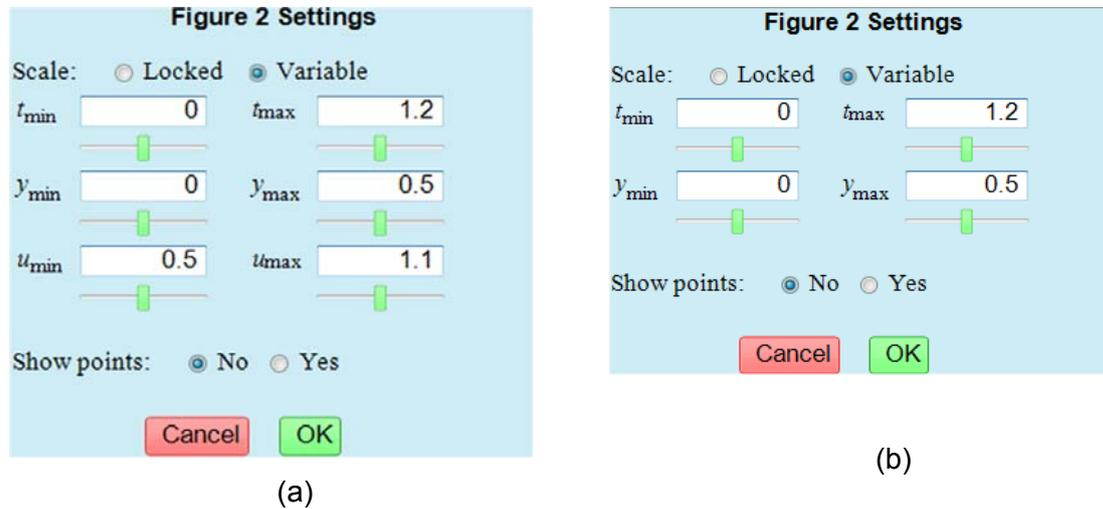

Figure 22. Auxiliary window to configure the scale in the *time response* zone:
On the other hand, to configure the scale of the *time response* zone, the user has to click on the gearwheel icon located in the right upper corner of the zone (see Figure 20). When the user does this action, an auxiliary window is shown (see Figure 22). There are two types of scale:
- Settling time t_s . It is the time required for the response curve to reach and thereafter remain within a 2% percentage of its final value. If LCSD cannot compute automatically t_s , then the value -1 is shown in the table. In this case, the user has to increase the simulation time t_{max} in the auxiliary window of the *time response* zone (see Figure 22). If the closed loop system is unstable, the value NaN is shown in the table.